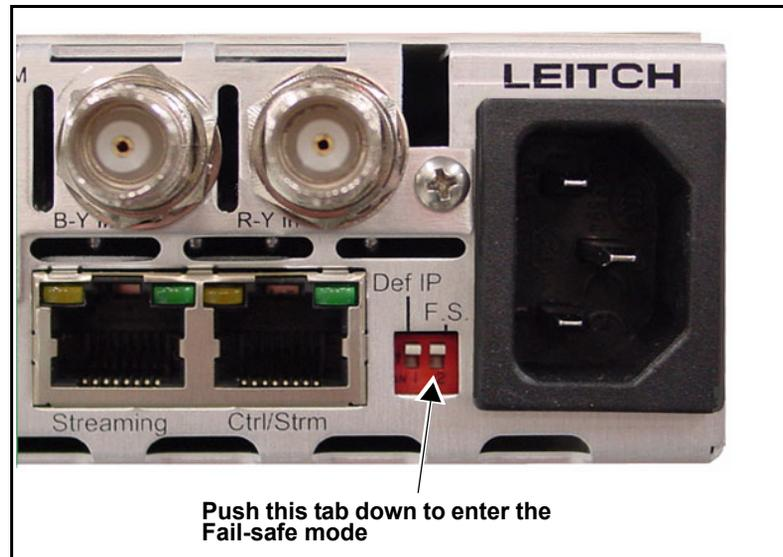

Figure B-12. Location of the F.S. (Fail-safe) DIP Switch
1. Push down the **F.S.** DIP switch on the back of the X75HD/X75SD unit (see Figure B-12).